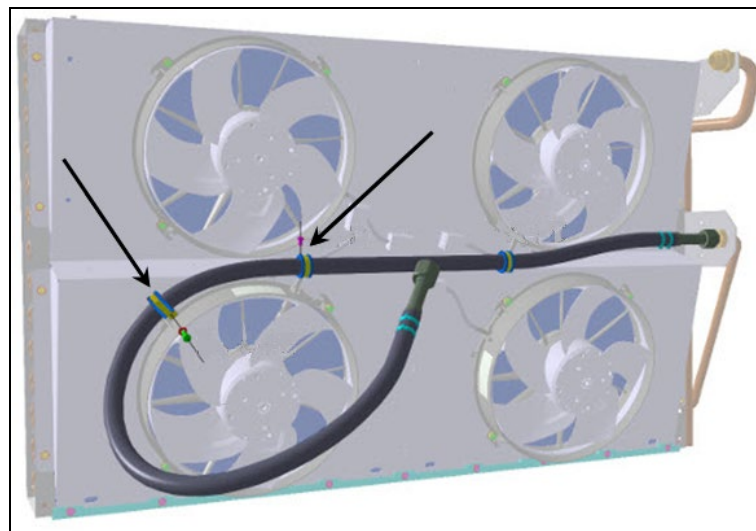

Fig.11
7. Remove two (2) of the P-Clamps that secure the lower condenser hose to the condenser body (Fig.11).